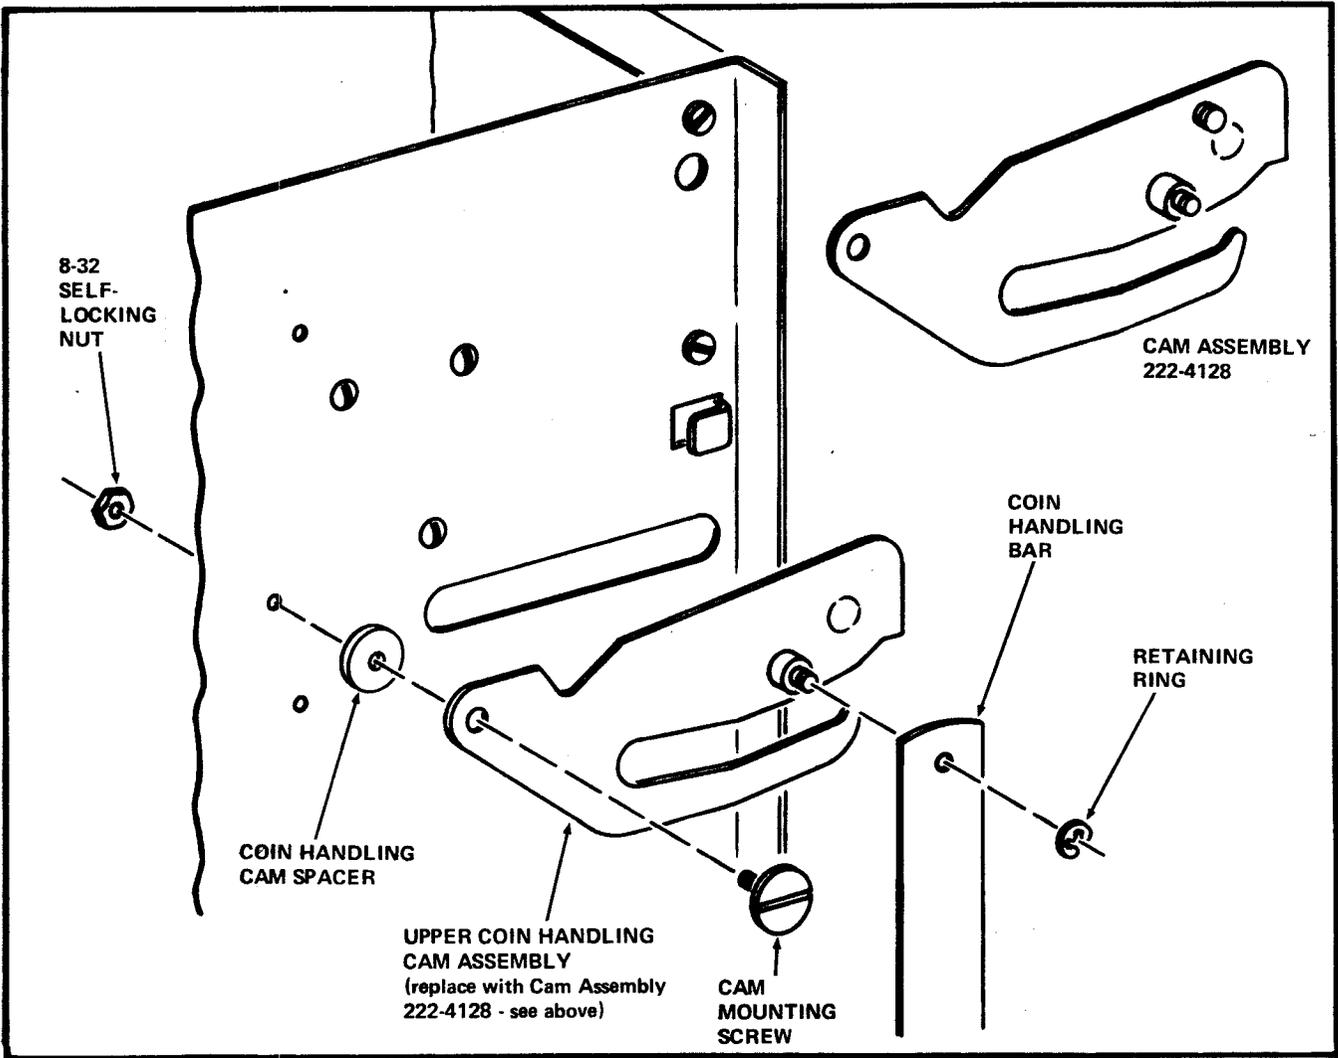

FIGURE 2
7. Remove the Retaining Ring which attaches the Coin Handling Bar to the Stud on the upper Coin Handling Cam and remove the Bar from the Cam. See Figure 2.
9. Install the replacement Coin Handling Cam Assembly, part number 222-4128, on the Right Sidewall. See Figure 2.